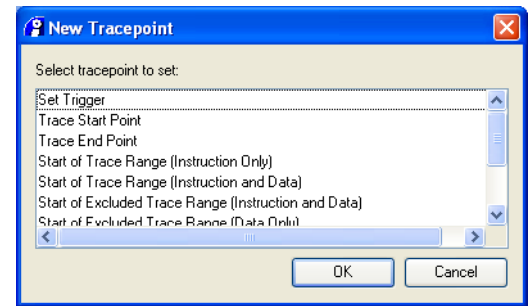

Figure 6-2 New Tracepoint dialog box
2. Select **Insert Tracepoint...** from the context menu to display the New Tracepoint dialog box. Figure 6-2 shows an example: